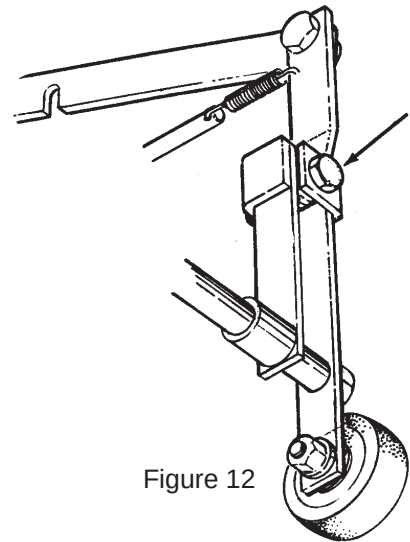

Figure 12
1. Locate the leveling screw. See figure 12.